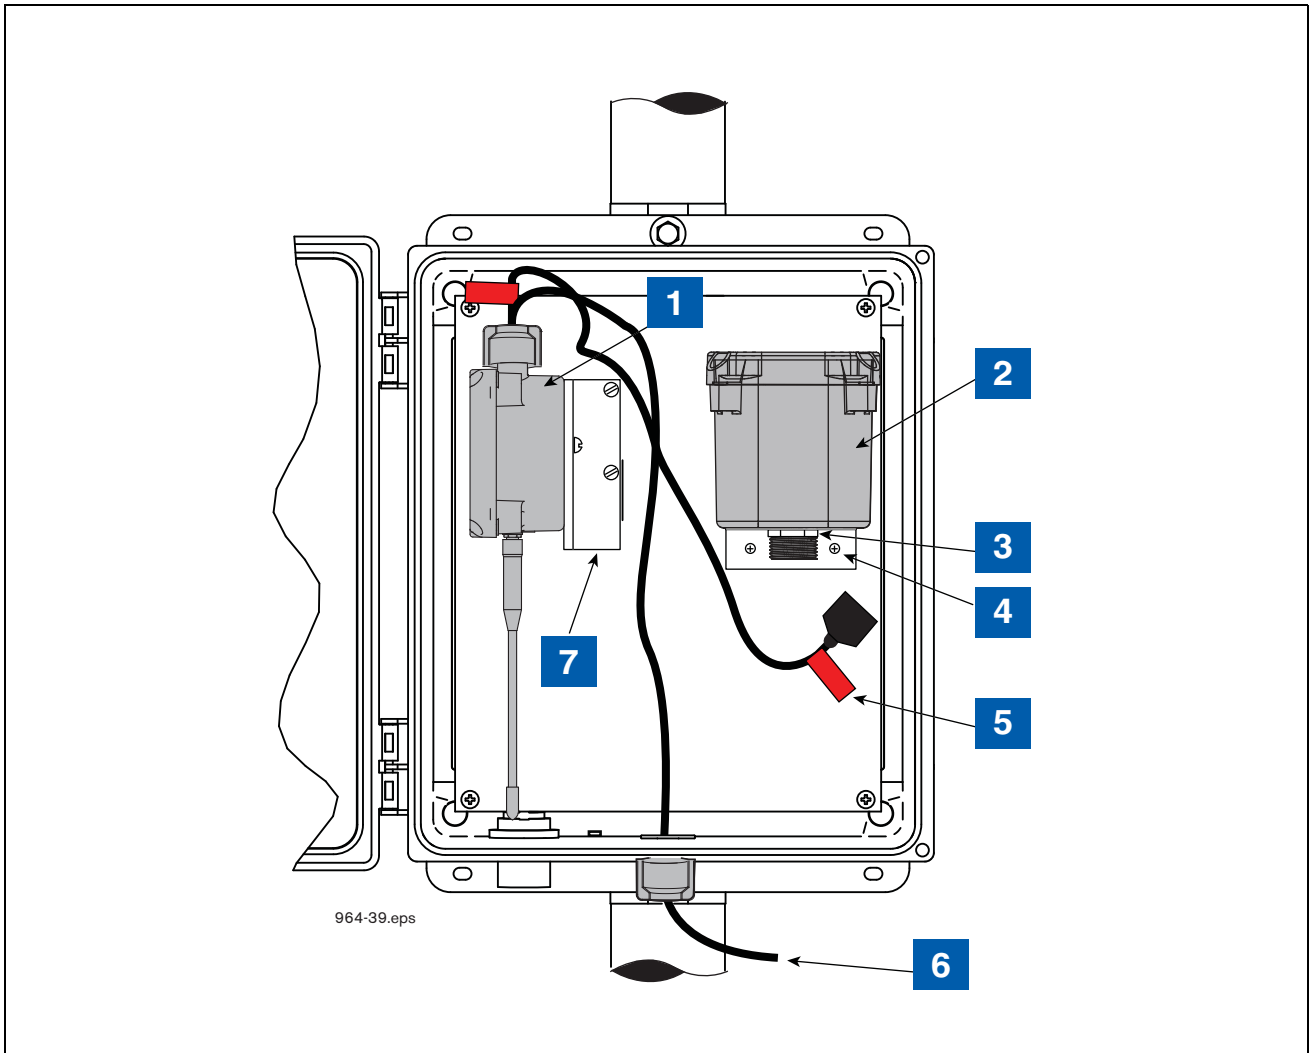

Figure 27. Example CCVP Transmitter/battery Pack Installation In The Universal Enclosure
6. Get the thin hex nut from the kit and screw it onto the battery housing cable connector threaded fitting until snug (see item 3 in Figure 27).
**LEGEND FOR NUMBERED BOXES IN Figure 27**
2. Make sure the battery/DC power cable is not connected to the battery pack (item 5 in Figure 27) or dc power source at this time.